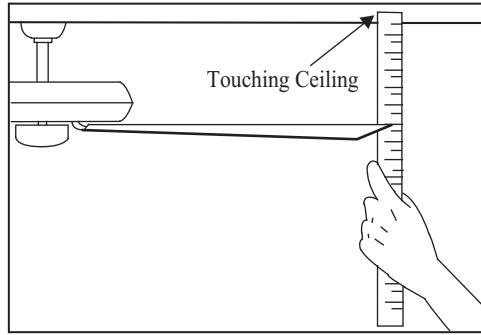

Figure 16
2. Most fan wobble problems are caused when blade levels are unequal. Check this level by selecting a point on the ceiling above the tip of one of the blades. Measure from a point on the center of each blade to the point on the ceiling. Measure this distance as shown in Figure 16. Rotate the fan until the next blade is positioned for measurement. Repeat for each blade. Measurements deviation should be within 1/8". Run the fan for 10 Minutes.